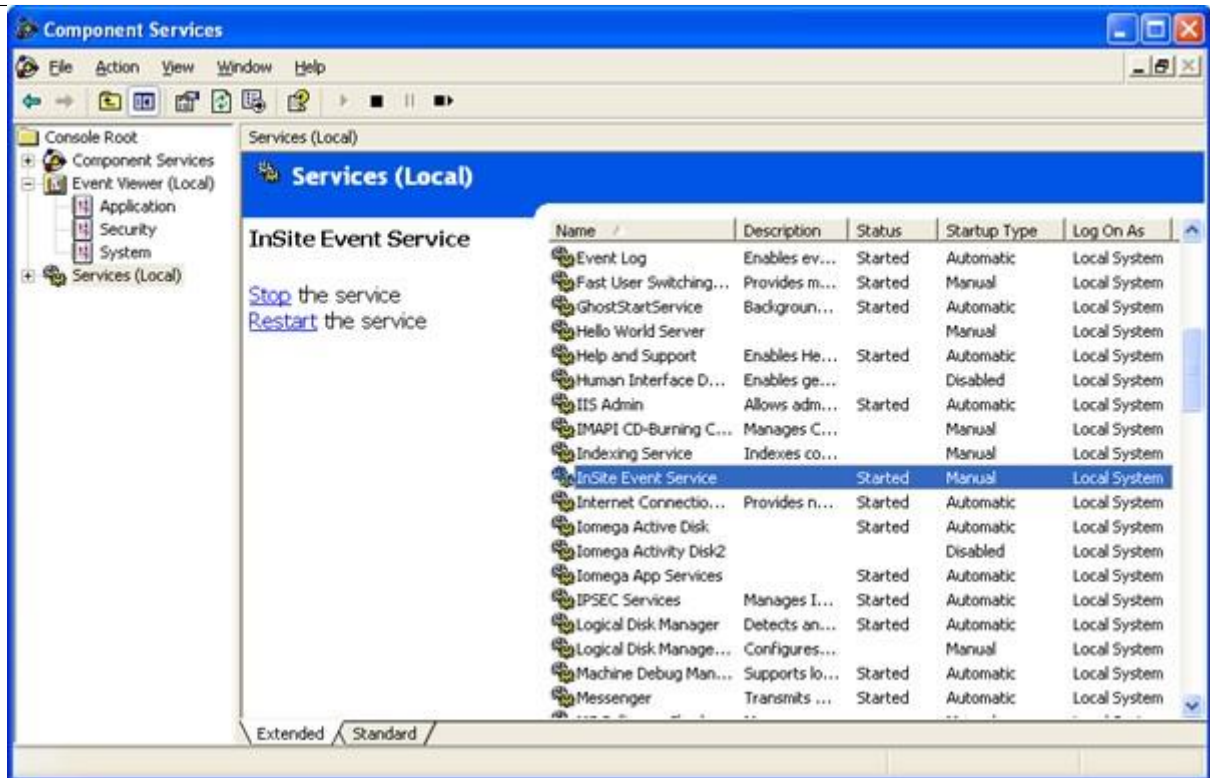

Figure 12-29: The InSite Event Service running in the Component Services manager in Windows XP.
1. The InSite Event-Service (Figure 12-29) is a separate application running as a Windows Service. This application is controlled by the "Component Services" manager that comes as a part of Microsoft Windows. The Event-Service contains lists of available events in all the Event-Servers registered on the local PC. When an Event- Client logs onto that PC, it interrogates the Event-Service which then 'broadcasts' the available servers and data.